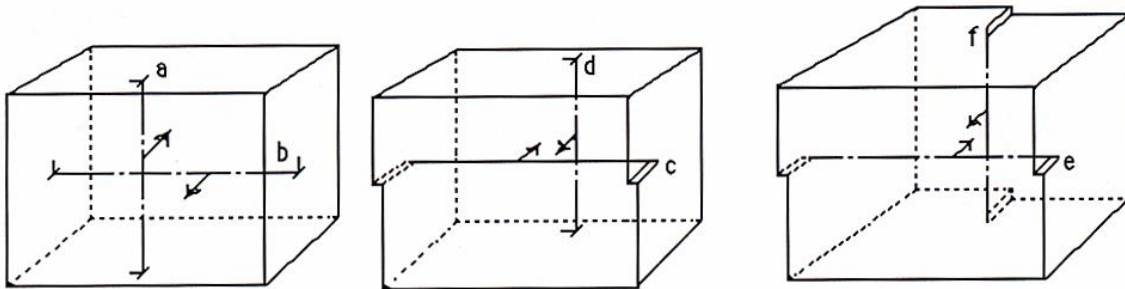

Figure 10.19. Sketch for problem 6
6. The sketches Figure 10.19 show pairs of dislocations that are about to intersect. The arrows show the directions of motion (Dislocations A, C and E are moving into the paper, dislocations B and F are moving out of the paper and dislocation D is moving to the left.)